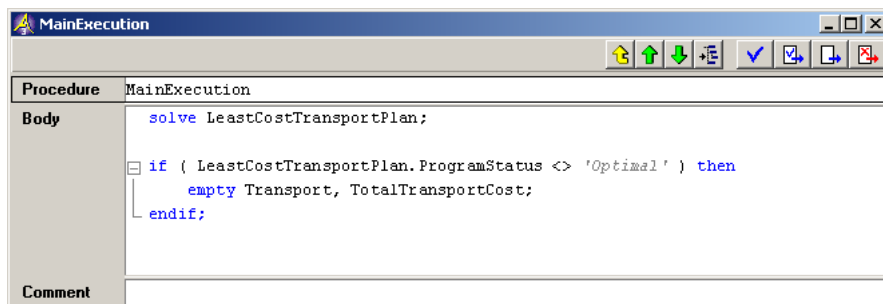

Figure 5.1: The attribute form of MainExecution
- ▶ enter the two statements in the body attribute as illustrated in Figure 5.1, and